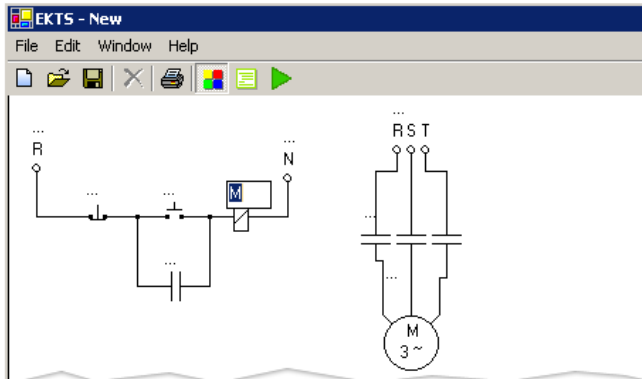

Figure 4 Give a name to a relay.
2. Type the name in text box, like shown in Figure 4, or select name from combo box.